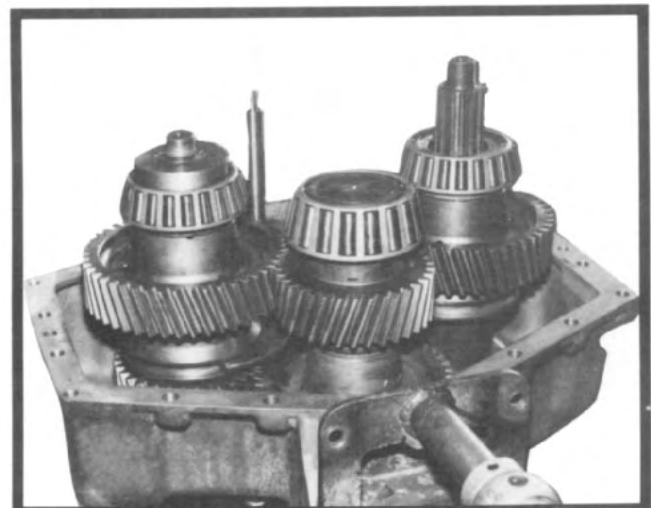

Fig. 16
7. Place input shaft front bearing cone into bearing race. Place the input shaft, intermediate shaft and output shaft assemblies into the front half of housing in that order (see fig. 16).